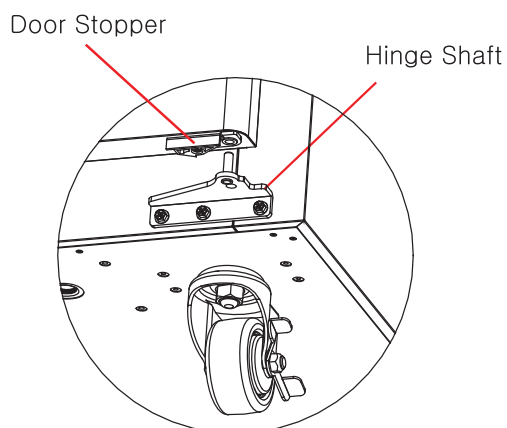

Fig 9-35
8. While lifting the door up, completely detach the door from the lower hinge shaft. (Fig 9-35)